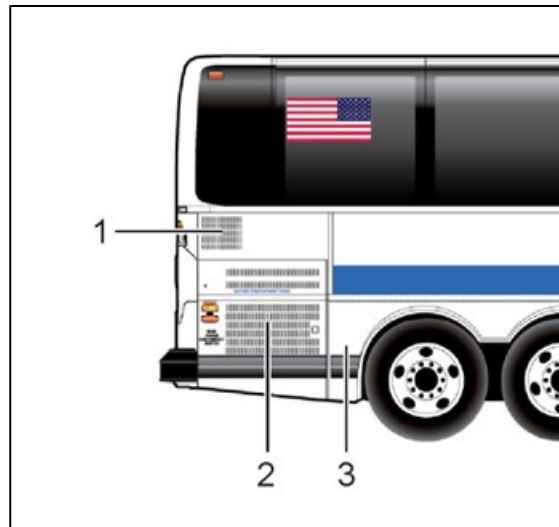

FIGURE 1
1. Locate and open the curbside engine compartment door on the vehicle. (item 2, Fig. 1)